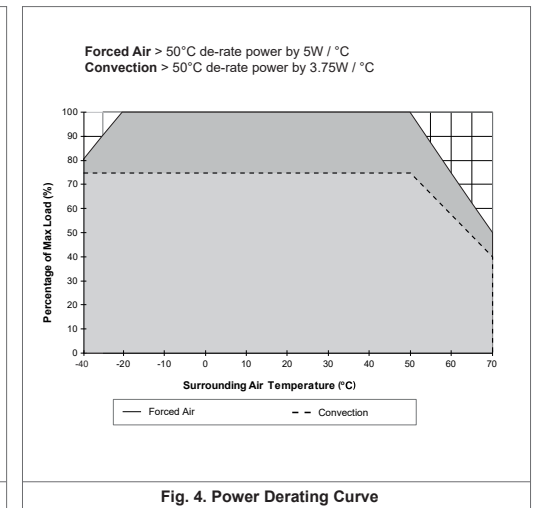

Fig. 4. Power Derating Curve
①	Input Tyco/Amp	1-1123724-3	1-1123722-5	18
②	Output Tyco/Amp	1-1123723-4	1-1123722-4
4. Power Derating Curve (Refer to Fig. 4)